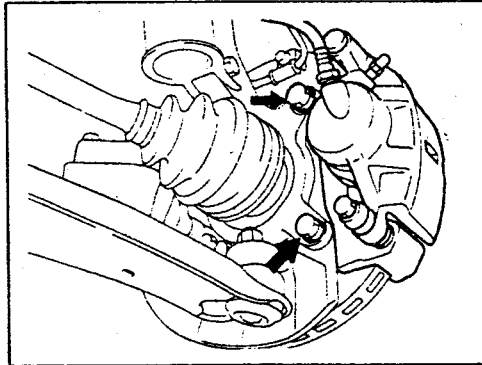

Fig. 13.4. — The arrows point to the brake caliper mounting bolts.
- Remove the two bolts shown in Fig. 13.4 and lift off the brake caliper. Remove the brake pads as described in Section 13.1.1.